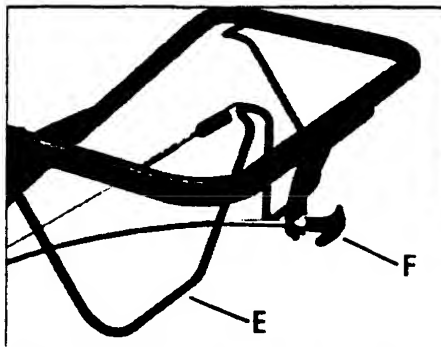

Figure 3-4: All models have a Forward Clutch Bail (E). Only Models 634F/634B have a Reverse Clutch Control (F).
The Forward Clutch Bail (E, Figure 3-4) controls the engagement of forward drive to the wheels and tines.
2. Lift and hold the clutch bail (E, Figure 3-4) against the handlebar to start the wheels and tines rotating in a forward direction.
The Reverse Clutch Control (F, Figure 3-4) controls the engagement of reverse drive to the wheels and tines. The reversing feature is used for maneuvering the tiller only – never engage the tines in the ground while operating in reverse.
3. Lift the handlebar until the tines clear the ground, look behind you to avoid any obstacles, and then pull the control knob (F, Figure 3-4) out. The wheels and tines will rotate in a reverse direction.